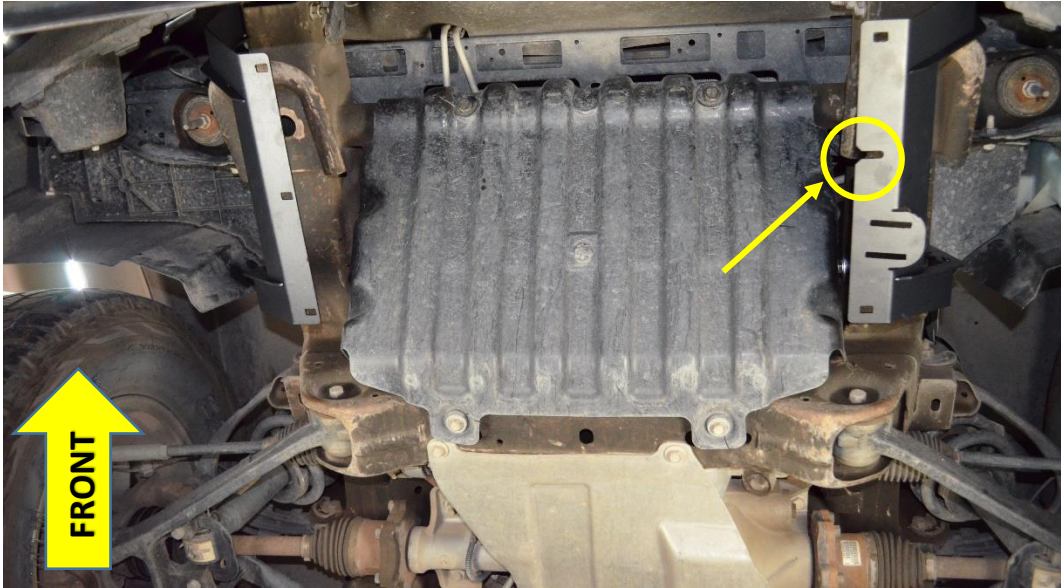

Figure 17 - Underside of Vehicle, with Brackets Mounted
- 9.3.13. Slot showcased in Figure 17 below.